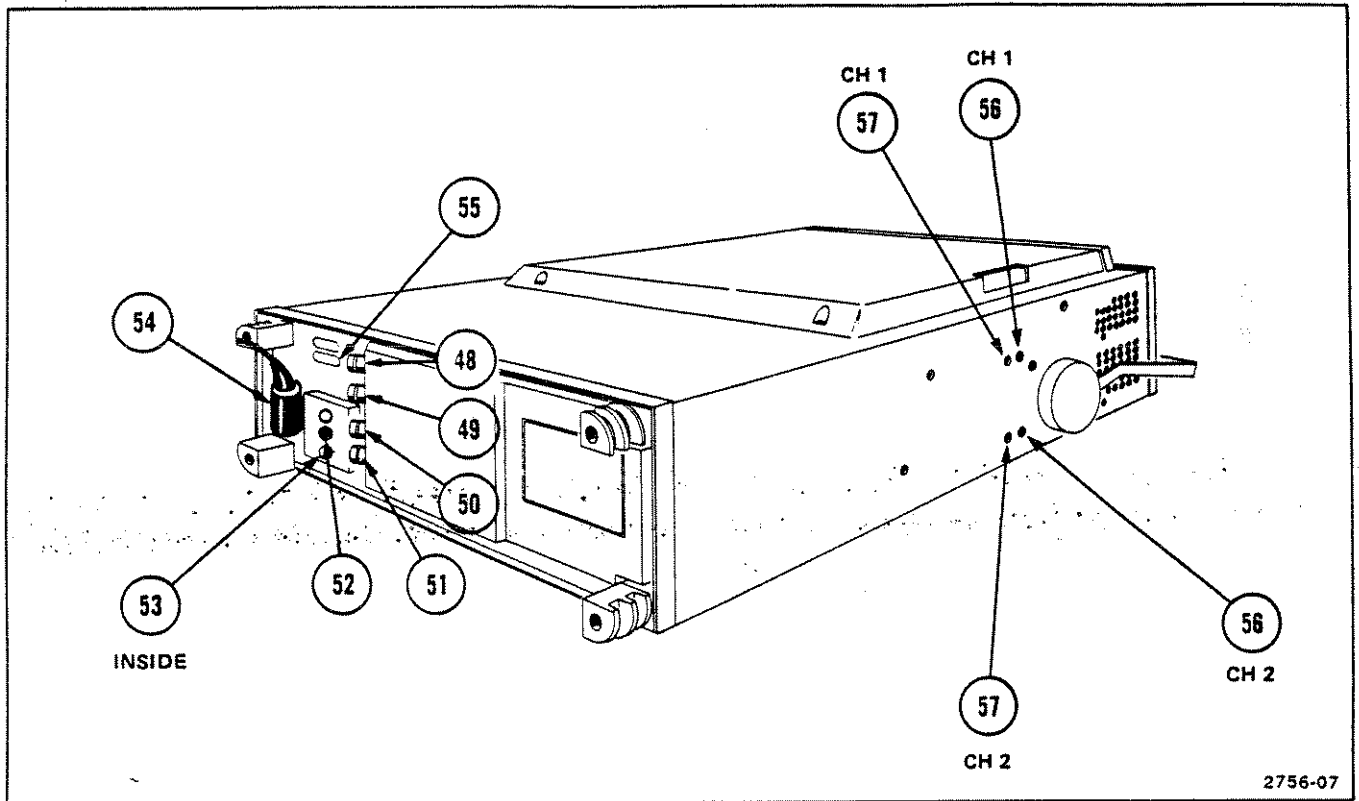

Figure 7. Rear panel and left side panel controls, connectors, and indicators.
Refer to Figure 7 for location of items 48 through 57.
- ④⑧ A +GATE—Output bnc connector provides a positive-going pulse coincident with the A Sweep time.
- ④⑨ B +GATE—Output bnc connector provides a positive-going pulse coincident with the B Sweep time.
- ⑤⑩ CH 1 VERT. SIGNAL OUT—Output bnc connector provides a sample of the signal applied to the Channel 1 preamplifier via the input connector.
- ⑤⑪ EXT Z-AXIS—Input bnc connector permits the application of an external signal to intensity modulate the crt display. Does not affect display wave-shape. Signals with fast rise time and fall time provide the most abrupt intensity change. Signals must be time-related to the display for a stable presentation on the crt. The connector is useful for adding time markers in uncalibrated modes of operation.
52 **Regulating Range Selector Bar**—Selects the regulating range of the 465B power supplies to match the available power input source. It is shown on Figure 7 in the Medium regulating range. See Table 1 for change information.